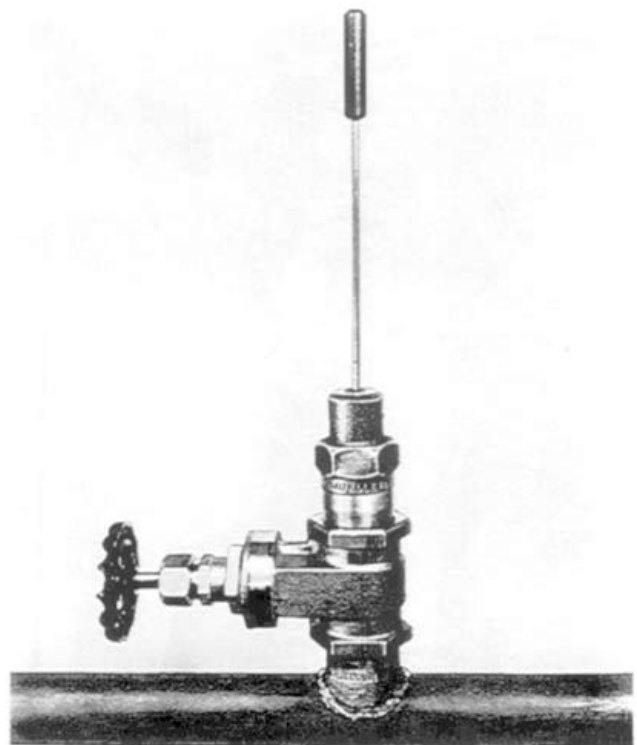

FIGURE 6
14. Attach the chip sweeper to the gate valve or slide gate valve. FIGURE 6.